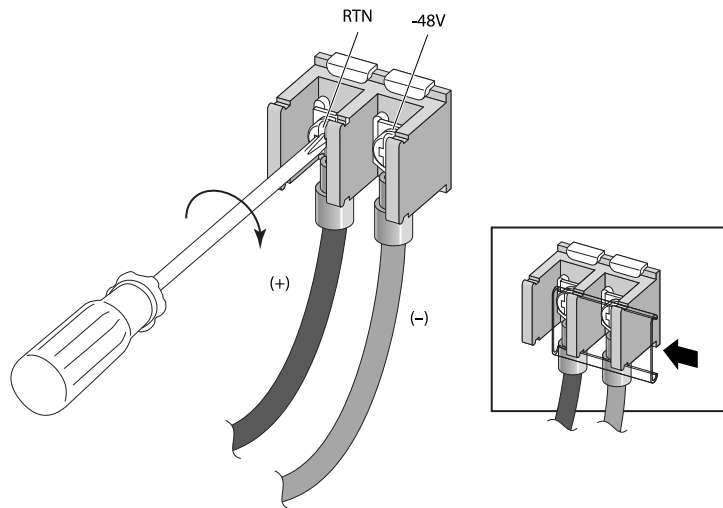

Figure 425: Connecting the DC Power Cables: Part 2
- d. Tighten both screws on the terminal block to 11 in-lb (1.24 N m). See Figure 425.